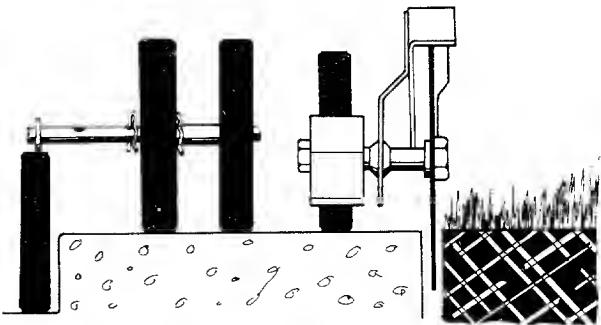
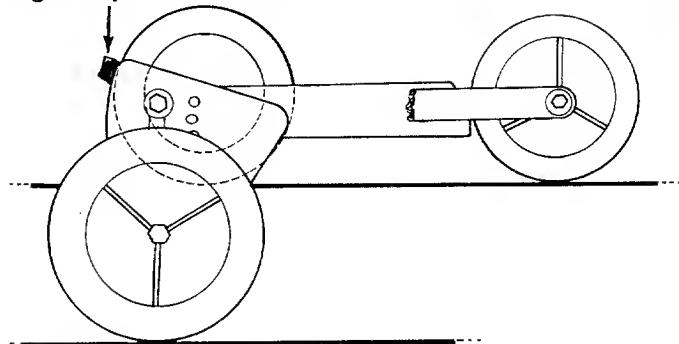

FIGURE 18
FIGURE 19
- To edge along a curb, remove the hairpin clip from the left side of the front axle, slide the left wheel toward the right side of the unit and replace the hairpin clip. See figure 18. Lower the right rear wheel by moving the height adjustment lever toward the engine, pivoting the wheel to the desired depth and releasing the lever. See figure 19.